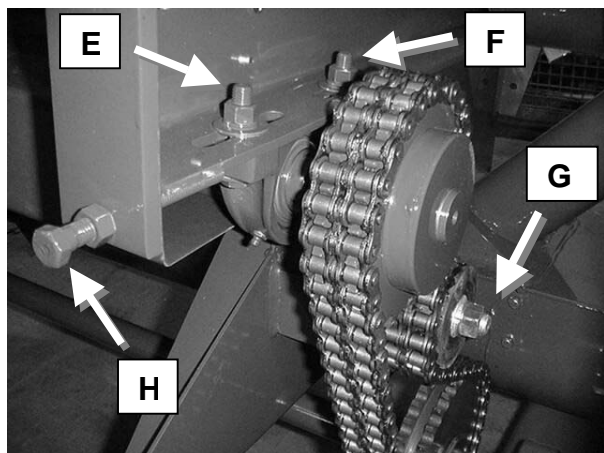
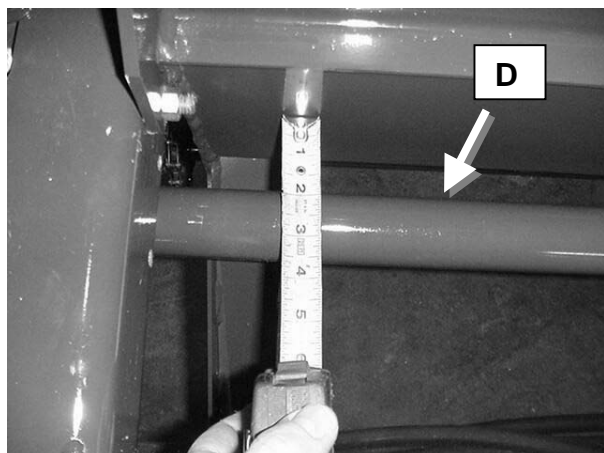

Figure 42 - Belt Tension Adjustment
Figure 43 - Belt Tension Adjustment
- Loosen bolts "E" and "F" (See Figure 42.)
- Adjust bolt "H" (See Figure 42) until Hammermill Jack Shaft "D" (See Figure 43) is parallel to Hammermill Housing. Measure both sides.